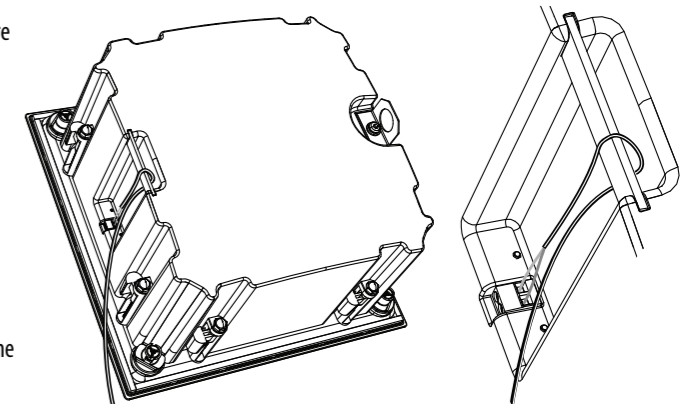

Fig. 15. Wiring the back can
3. The speaker cable may be wrapped around the bar near the screw terminals on the back can (Fig. 15).